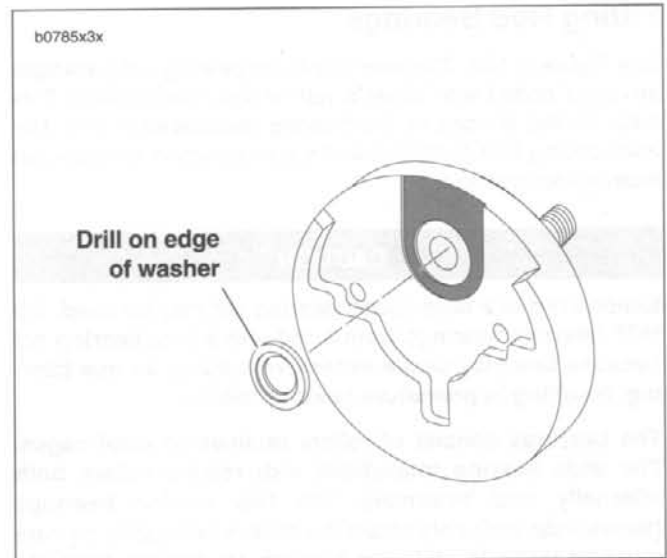

Figure 3-100. Flywheel Washer
1. See Figure 3-100. The stepped flywheel washer is a close fit in flywheel recess. Washers are originally secured by punching flywheel metal tight against the washer at several points. It is usually necessary to drill a 1/8 in. (3.2 mm) or smaller hole at the outer edge of the washer to permit prying with a pointed tool.